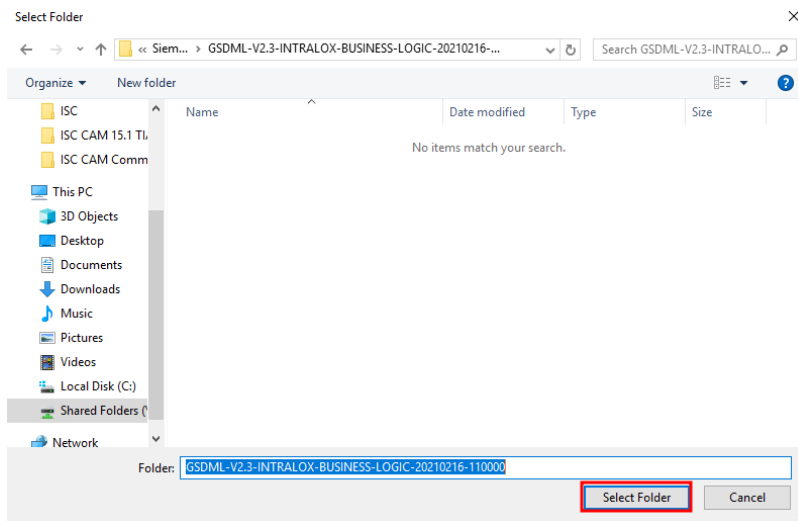

Figure 3: GSD Folder Selection – Browse
6. A windows explorer will open, browse to the saved folder location of the downloaded GSD file, step 1a, click “Select Folder, Figure 3.